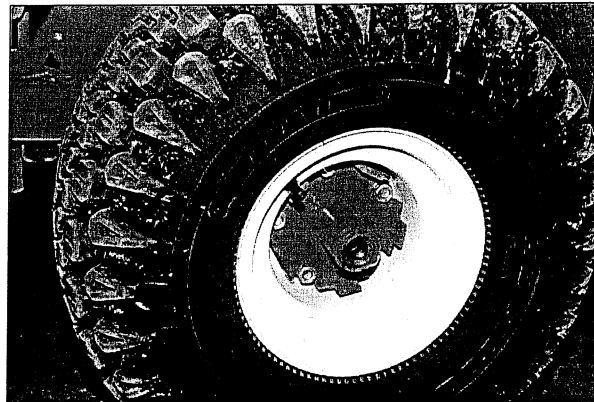

Figure 31
5. Install the 5 hole bracket (**Figure 31**) with 5 tabs over the bolts and against the lug nuts.